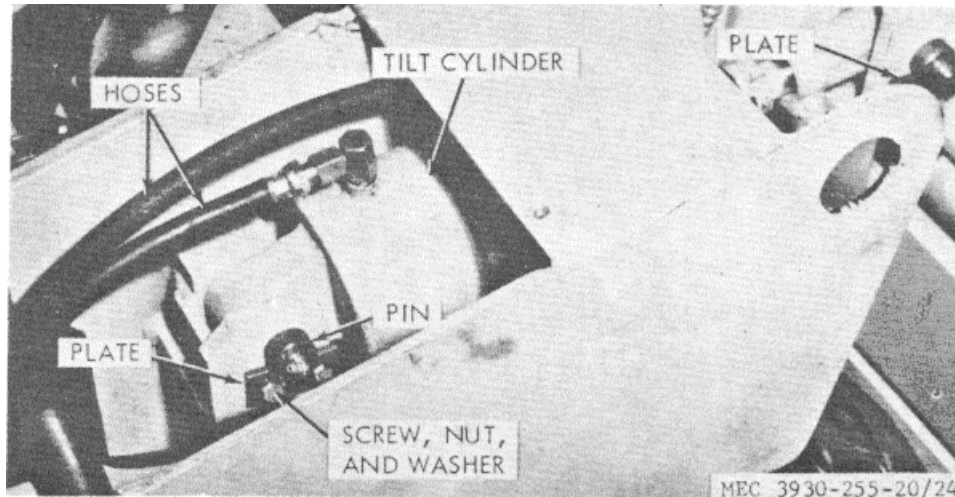

Figure 24. Tilt cylinder.
- (1) Disconnect hoses (fig. 24) from tilt cylinder. Cap hoses and plug ports in cylinder to exclude dirt.
- (2) Remove screws, nuts, and washers attaching plates to brackets on truck frame and on uprights. Remove plates from notches in pins.
- (3) Pull or drive pins from brackets and tilt cylinder ends. Be careful not to let cylinder fall as pins come out.